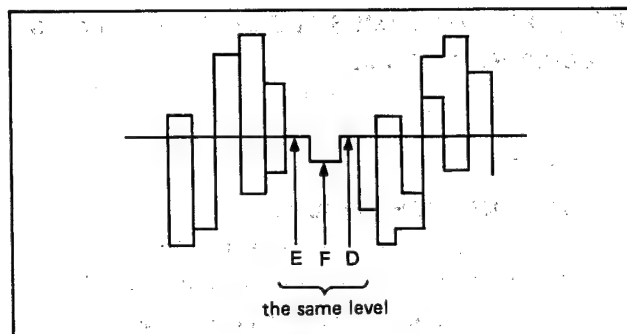

Fig. 20
7. Adjust L618 so that the levels D, E and F are same level as shown in Fig. 20.